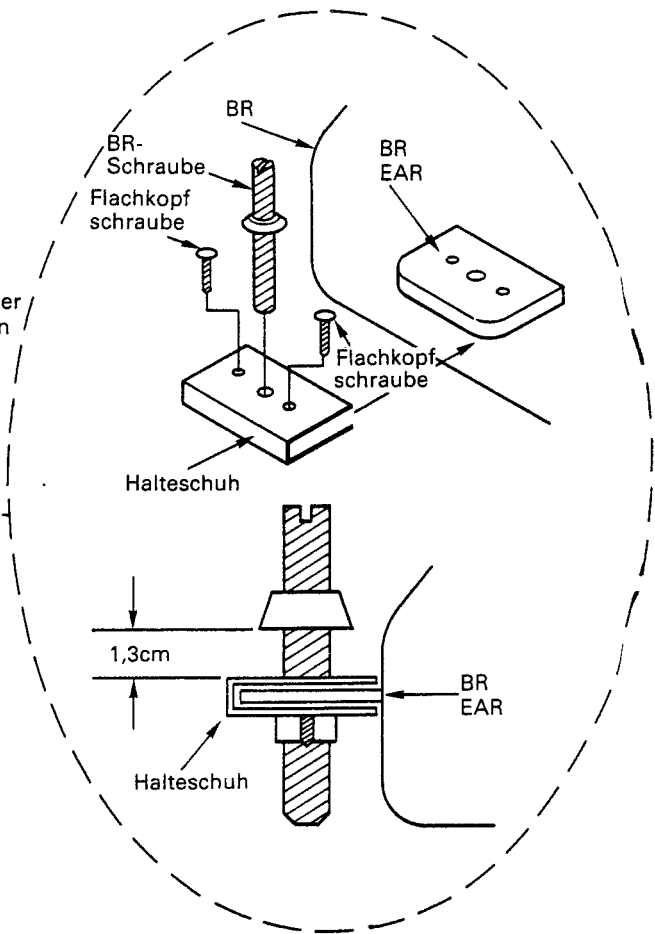

Abb. 15-6
3. Install a LUG-HOLDER on each of the CRT Ears, and secure each with the two Philips mounting screw. (Fig. 15-6)
4. Manually start a CRT mounting screw in each LUG-HOLDER, leave approximately about 1/2 inch between the bushing on the screw and the LUG-HOLDER. (Fig. 15-6)